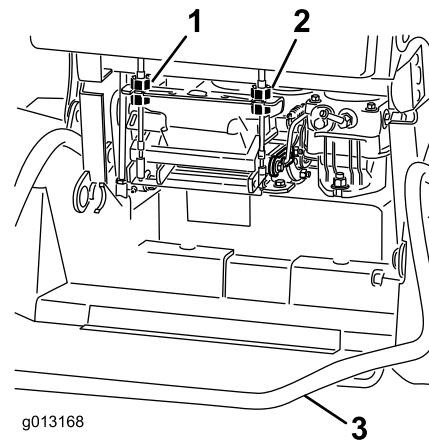

Figure 56
4. Rotate the right cable adjustment to position the right motion control in the center of the control panel neutral lock slot. Then, rotate the left cable adjustment to match the left wheel speed to the previously set right wheel speed. (Figure 56).